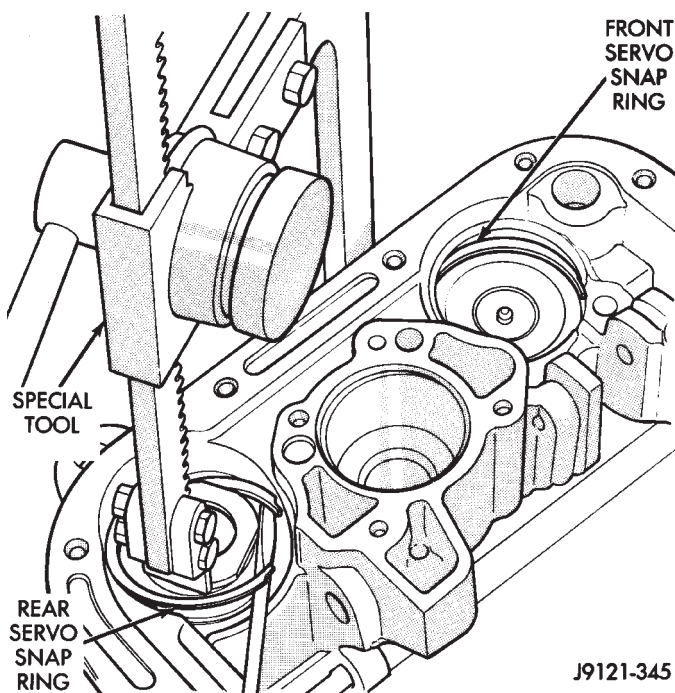

Fig. 103 Compressing Rear Servo Spring
(34) Remove front servo rod guide snap ring. **Exercise caution when removing snap ring. Servo bore can be scratched or nicked if care is not exercised.**
(35) Remove compressor tools and remove front servo rod guide, spring and servo piston.
(36) Compress rear servo spring retainer about 1/16 inch with Valve Spring Compressor C-3422-B (Fig. 103).